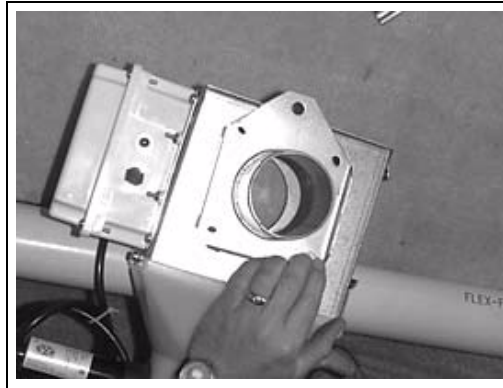

Figure 5Q Assembly of Tube Anchor to the Control Unit
1. Bolt the tube anchor to the control unit body with a flat washer on each of the four (4) 5/16" x 3/4" bolts. (See Figure 5Q for more details.)
1. Bolt the tube anchor to the control unit body with a flat washer on each of the four (4) 5/16" x 3/4" bolts. (See Figure 5Q on Page 26 for more details.)
3. Bolt the two (2) mounting brackets together with the four (4) bolts and washers provided.
4. Attach the motor support assembly to the control unit with the four (4) bolts already in the mounting bracket and belt guard. Secure with the four (4) lock washers and hex nuts provided. If necessary, motor orientation can be reversed by rotating the motor mount 180°.